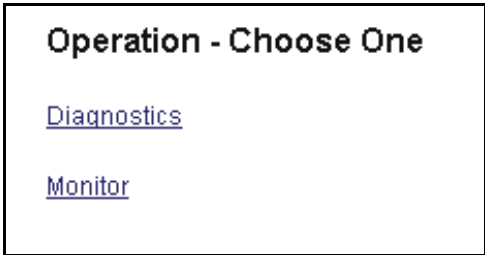
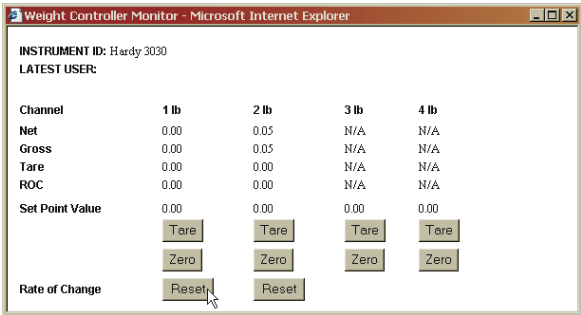

FIG. 3-27 OPERATION/SELECTING MONITOR
FIG. 3-28 RESETTING RATE OF CHANGE
Step 1. From the HI 3030 Home Page click on Operation. (See Fig. 3-26) The Operation page appears. (See Fig. 3-27)
Step 2. Click on "Monitor". (See Fig. 3-27) The Monitor page appears with the Net, Gross, Tare and Rate-of-Change for all 4 channels. (See Fig. 3-28)
(See Fig. 3-28)